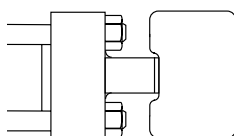

Fig. 6
**Centerline Cap End Mount** – On Series 2A and 3L cylinders, bore sizes 1 1/2", 2" and 2 1/2", limit switch actuators cannot be mounted on the sides of the cap, because the cap is too thin. Limit switch actuators on these bore sizes are mounted on the centerline of the cap, (Fig. 6) except where cylinder mountings interfere. To order, specify Style AO-1 for hydraulic cylinders and Style AO-2 for pneumatic cylinders.